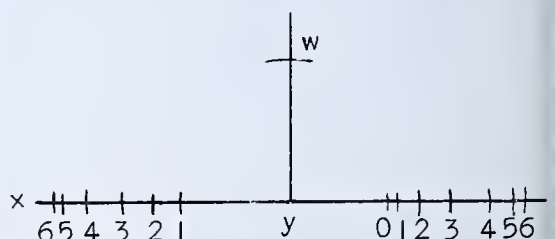

FIG. 325 — Steps 12 to 15, Inclusive
12. Set one trammel point at *y* in Fig. 325 and scribe a short arc on line *x-x* to the right of the perpendicular at *o* as shown in Fig. 325.
325 and scribe a short arc on line  $x-x$  at  $l$  as shown in Fig. 325.
5. Continue setting the trammels and transferring the distances to the layout as shown in Fig. 325 until all of the intersecting arcs have been scribed.
17. Set one trammel point at  $y$  in Fig. 325 and scribe a short arc on line  $x-x$  to the left of the perpendicular at  $l$  as shown.
18. Continue setting the trammels and transferring the distances to the layout as shown in Fig. 325, until all of the intersecting arcs have been scribed.